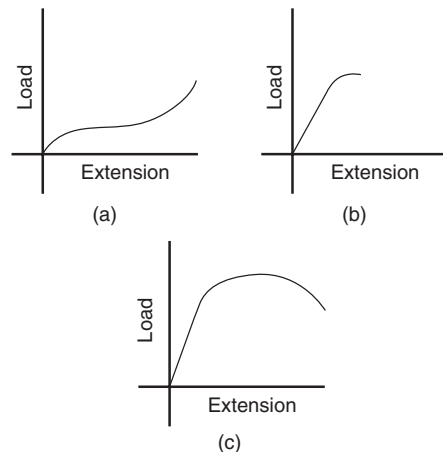

Figure 1.10
- (a) A typical load/extension curve for an elastic non-metallic material is shown in Figure 1.10(a), and an example of such a material is polythene.
- (b) A typical load/extension curve for a brittle material is shown in Figure 1.10(b), and an example of such a material is cast iron.
- (c) A typical load/extension curve for a ductile material is shown in Figure 1.10(c), and an example of such a material is mild steel.